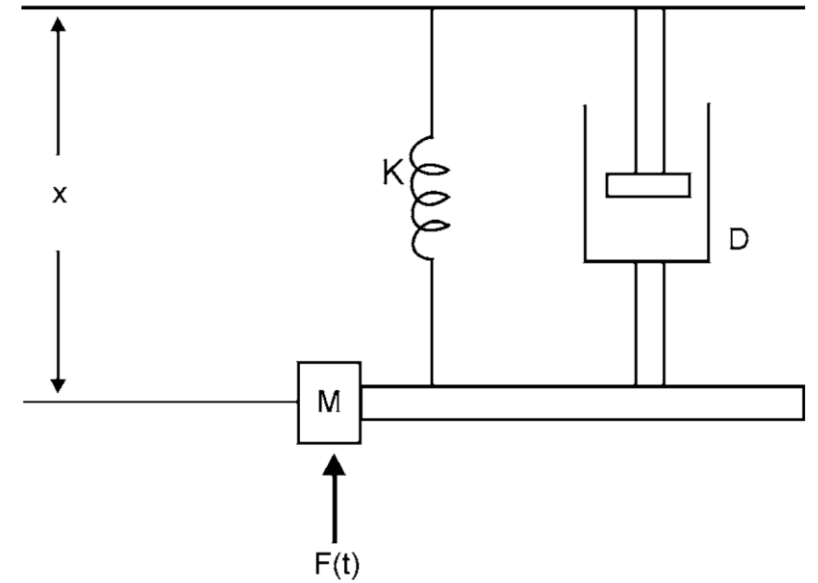

Fig. 1.2: *Suspended weight attached with spring and piston.*
- Consider a wheel of mass M , suspended in vertical direction, a force $F(t)$, which varies with time, is acting on it. Mass is connected with a spring of stiffness K , and a piston with damping factor D . When force $F(t)$, is applied, mass M oscillates under the action of these three forces. This model can be used to study the oscillations in a motor wheel. Figure 1.2 shows such a system.